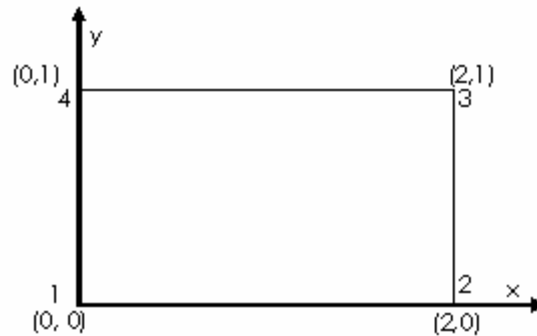

Figure: 3
6. For a 4 noded rectangular element shown in Figure 3, determine the following at $\epsilon = 0$; $\eta = 0$. Take $E = 2 \times 10^5 \text{ N/mm}^2$; $\nu = 0.25$ and $u = [0, 0, 0.002, 0.003, 0.005, 0.003, 0, 0]$.